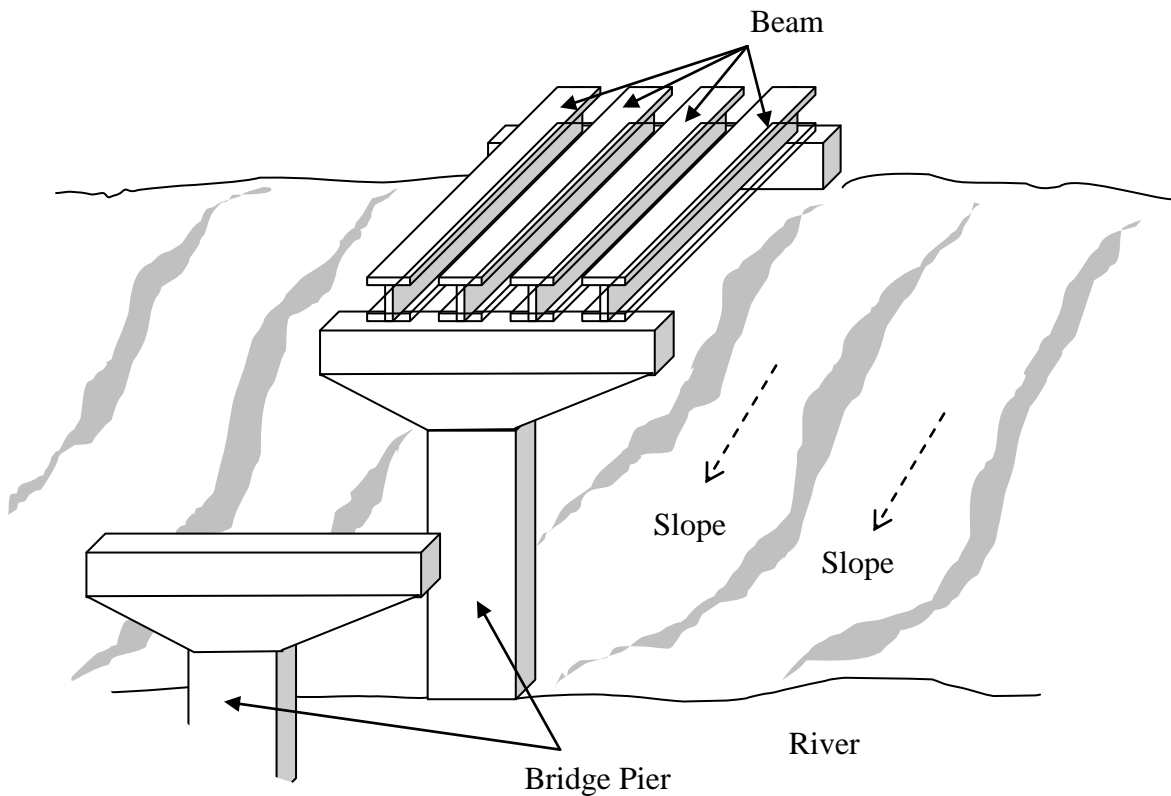

Figure 3.0
3. (a) During construction of a bridge across a river as shown in Figure 3.0, the load on each beam is assumed to be  $w$  kN/m, which includes the weight of the beam. The beams are simply supported at piers with a span length of  $L$  meter. The beam is also subjected to a concentrated load of  $P$  kN at mid span and a clockwise moment of  $M_0$  kN.m at left-hand support of the beam. Determine the vertical deflection at mid span of the beam in terms of  $w$ ,  $P$ ,  $M_0$  and  $L$  using the energy method.